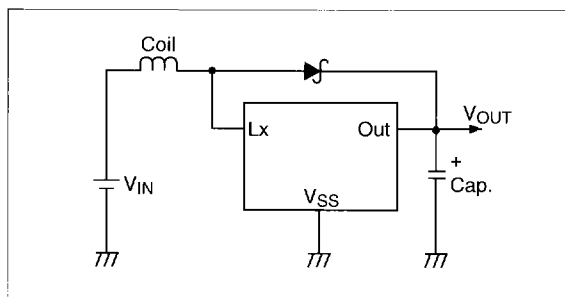

Figure 1. TC181BXX
- 1B: Internal (see Fig. 1)
**TC181B30:**  $V_{OUT} = 3V$ ,  $V_{IN} = 2V$ ,  $V_{SS} = 0V$ ,  $I_{OUT} = 10mA$ ,  $T_A = 25^{\circ}C$ , unless otherwise specified. (See Fig. 1)
**TC181B50:**  $V_{OUT} = 5V$ ,  $V_{IN} = 3V$ ,  $V_{SS} = 0V$ ,  $I_{OUT} = 10mA$ ,  $T_A = 25^{\circ}C$ , unless otherwise specified. (See Fig. 1)